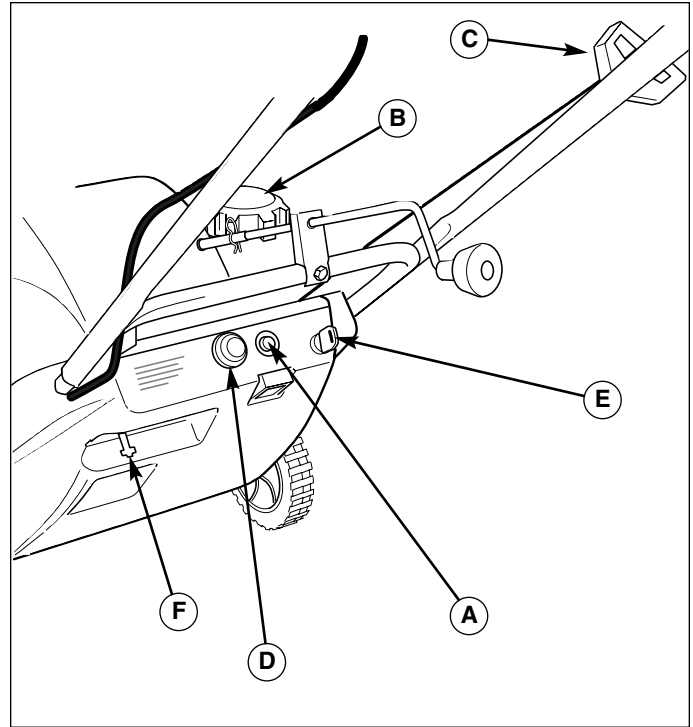

Figure 6. Engine Controls
- A. Electric Start Button** - The electric start Button (A, Figure 6) activates an electric starter mounted to the engine, eliminating the need to pull the starter handle. The electric start button operates on 120 Volts AC, which is provided by connection to the extension cord provided with units equipped with this feature. **Connect this extension cord ONLY to a properly grounded 3 prong electrical outlet.**
- C. Starter Handle** - The starter handle (C, Figure 6) connects to a starter cord to manually start the engine. Pulling starter handle rapidly spins the engine crankshaft, cycles the engine, and generates the spark necessary for starting the engine.
- D. Primer Button** - When pressed, the primer button (D, Figure 6) provides initial fuel to help start a cold engine. Normally, pressing the primer button twice will provide enough fuel to start a cold engine.
- F. Choke Control** - The is control (F, Figure 6) adjusts the fuel/air mixture, and is used to help start a cold engine by providing a richer mixture. Once the engine is warm and running smoothly, the choke control should be set to the off position to provide a normal air/fuel mix.